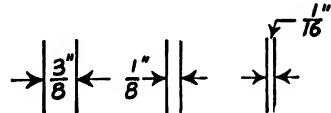

Fig. 2-12. Methods of showing dimensions in limited space.
15. Do not crowd figures. If space is limited, use one of the methods shown in Fig. 2-12.